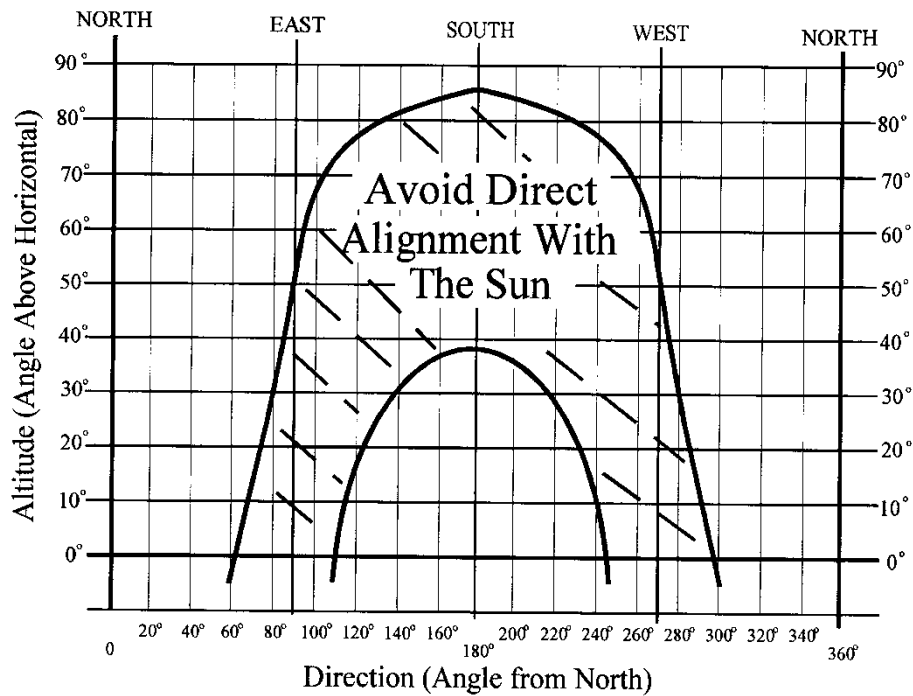

Figure 3 – Avoiding Interference from the Sun
- ❑ Avoid viewing the sun. For installations in the northern hemisphere, mount the sensor at any point south of the east-west line passing through the base of the flare. For installations in the southern hemisphere, mount the sensor at any point north of the east-west line passing through the base of the flare. For installations within the tropics, a direct eastern or a direct western view should be avoided. See Figure 3.